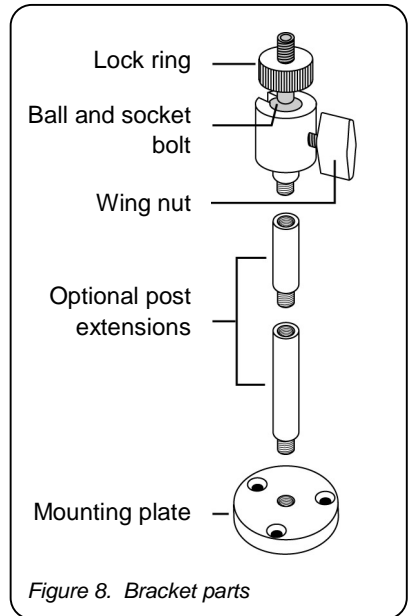

Figure 8. Bracket parts
- 1) Unscrew the mounting plate (Figure 8) from the rest of the bracket.
- 1) Turn the wing nut (Figure 8) on the bracket counterclockwise to free the ball and socket bolt (Figure 8). See Figure 11.
- 3) Tighten the lock ring (Figure 8) to secure the camera to the ball and socket bolt. See Figure 12.
- 1) If necessary, turn the wing nut (Figure 8) on the bracket counterclockwise to free the ball and socket bolt (Figure 8). See Figure 11.